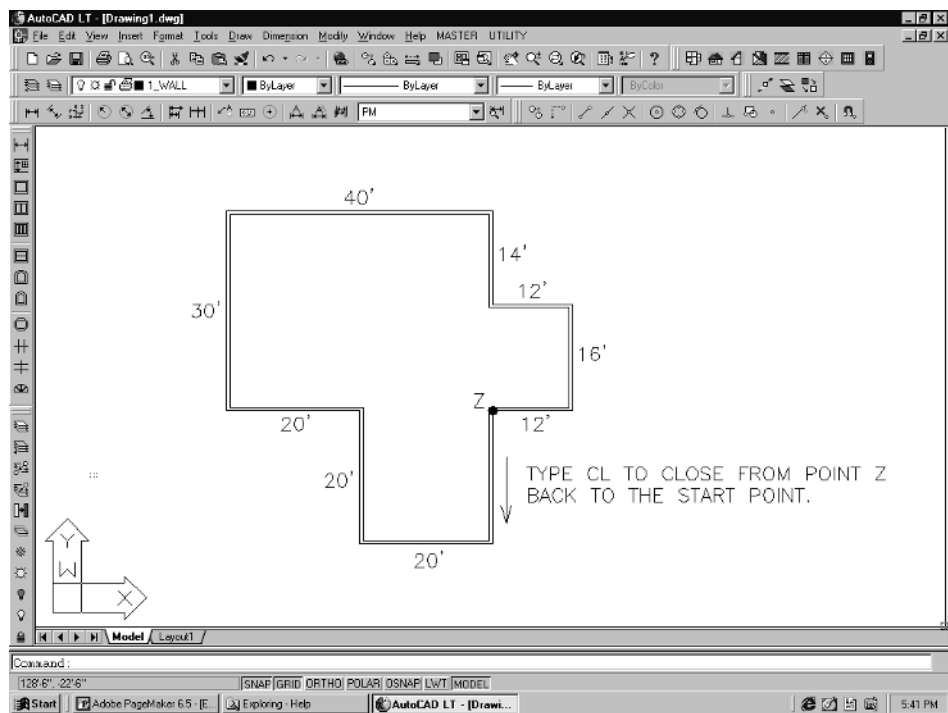

Figure 6-11
8. Continue around the floor plan with either method using the distances shown in Figure 6-11. Stop when you get to point Z. Then type **CL** and the walls will close back to the start point.